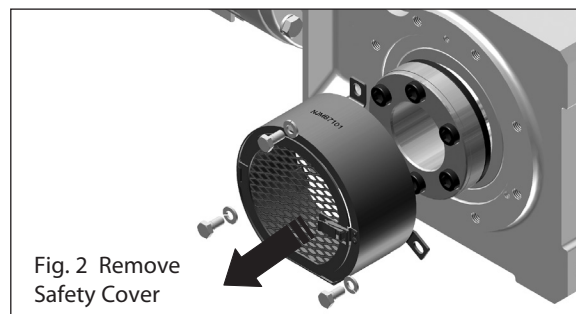

Fig. 2 Remove Safety Cover
Step 1 – Remove the Taper-Grip® bushing safety cover (see Fig. 2).